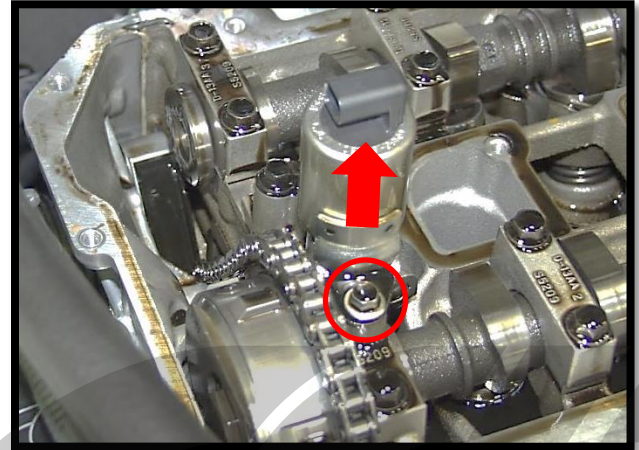

Figure 3u
- u) **Remove the oil control valve.** Remove the 8mm bolt (red circle) with a socket wrench, and pull the valve upward (Figure 3u).